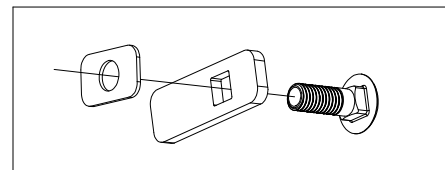
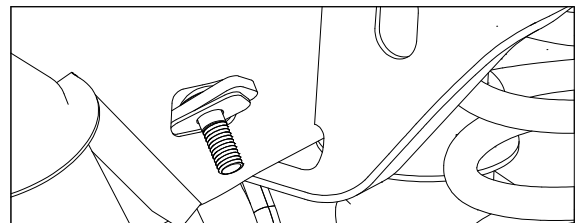
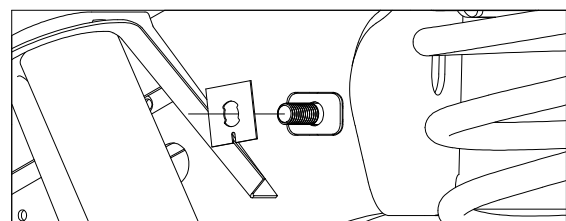

FIGURE F2: Carriage bolt assembly.
FIGURE F3: View looking into driver side wheel well.
FIGURE F4: View looking into driver side wheel well.
2. **Install the carriage bolt into the frame.** First pass a locking strap over a 1/2" carriage bolt, then pass a rectangle frame spacer over the same bolt, see Figure F2. While holding onto the threaded portion of the carriage bolt, pass the locking strap completely into the frame through the rectangle hole, see Figure F3. Push the rectangle frame spacer into the hole in the frame. Thread a bolt retainer onto the bolt and tighten until it is flush with the outside of the frame, see Figure F4. The spacer must be inside the frame hole and not stick past the face of the frame. Complete this step on both sides of the frame.